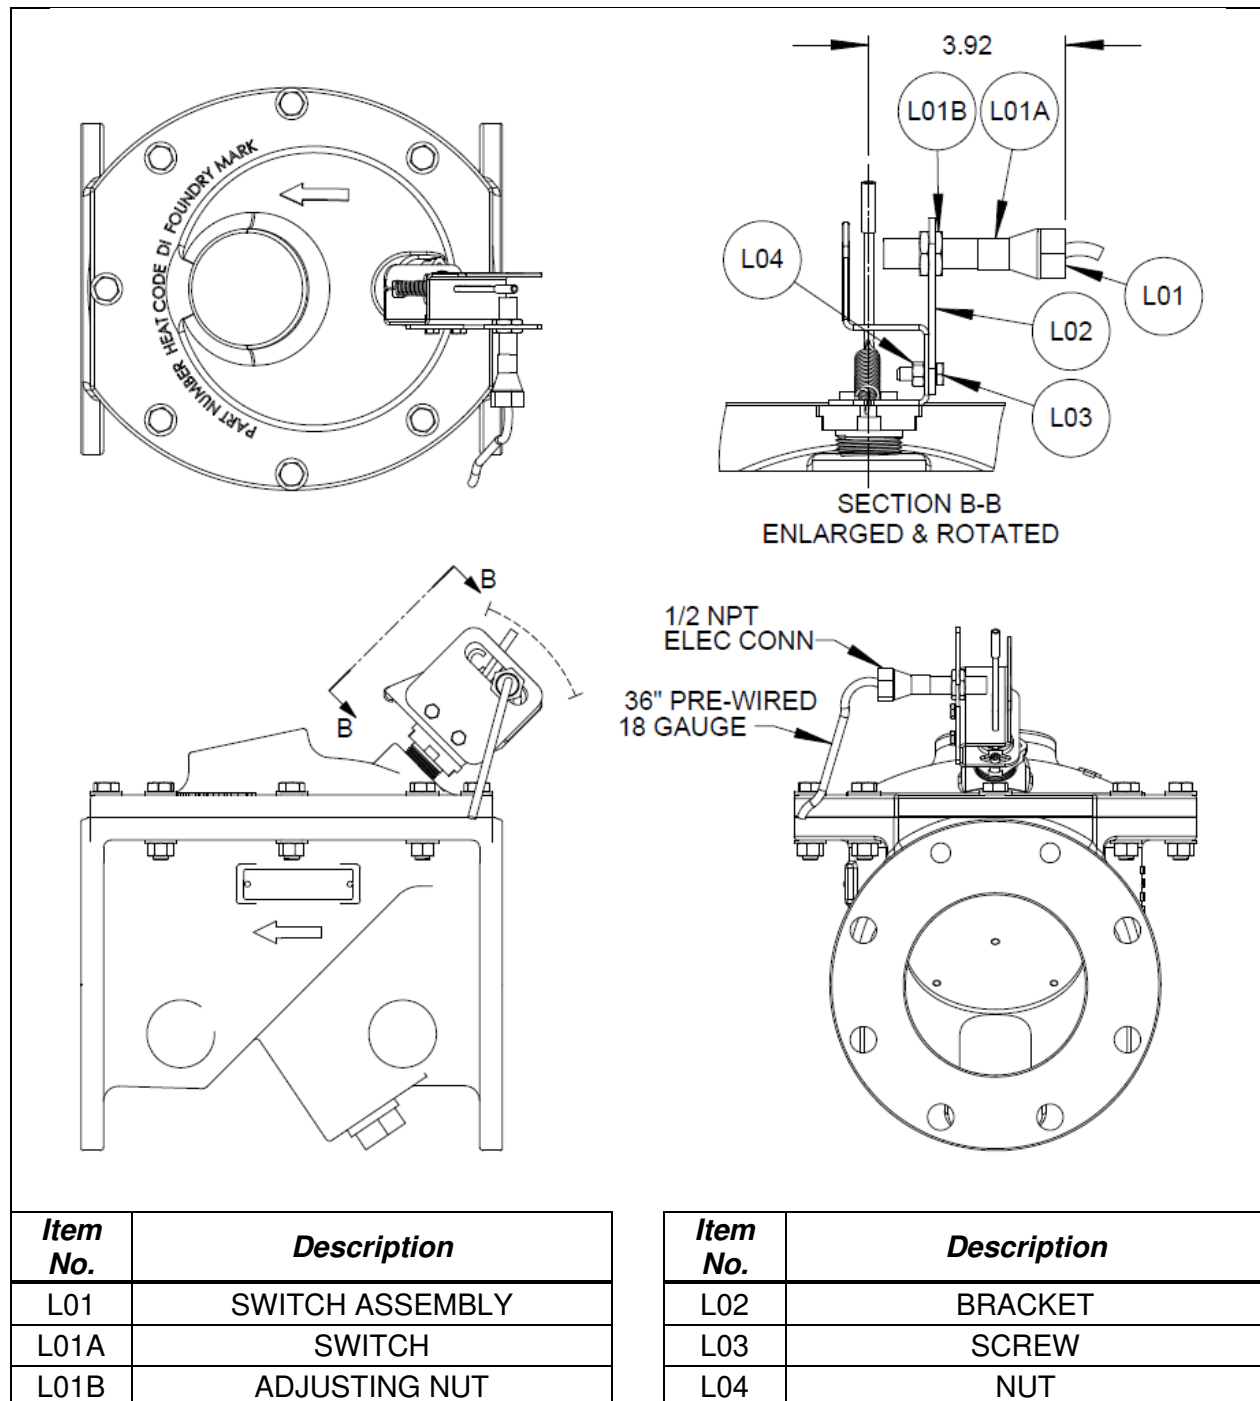

Figure 6: Proximity Switch Assembly
Refer to Figure 6 for component identification.
4. Adjust the Adjusting Nut (L01B) until the proper distance (shown in Section B-B in Figure 6) is achieved.